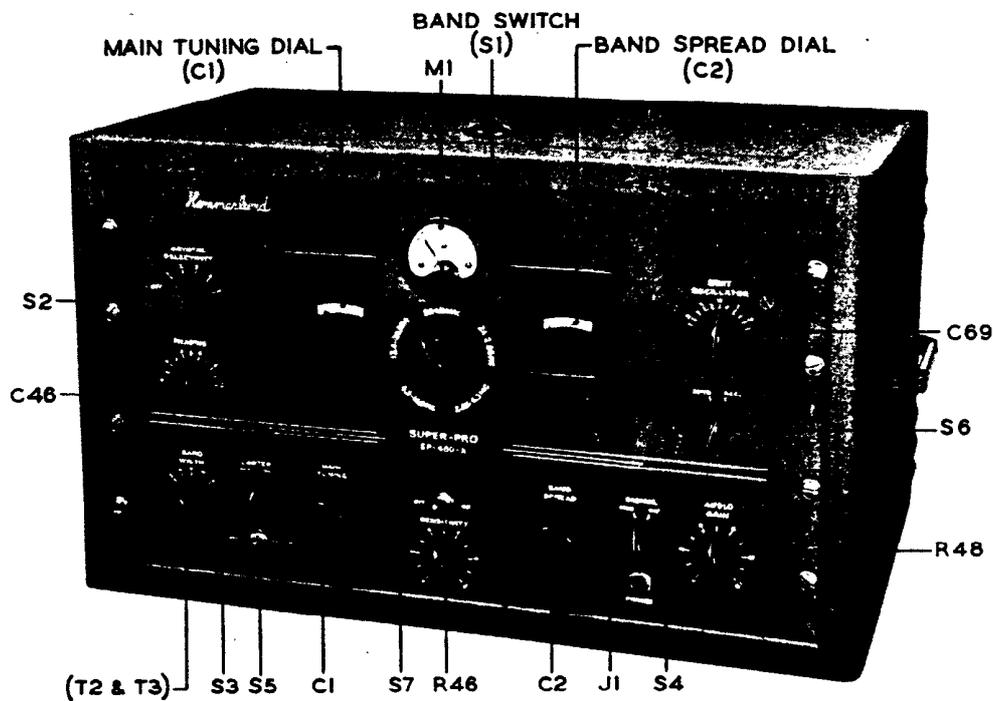
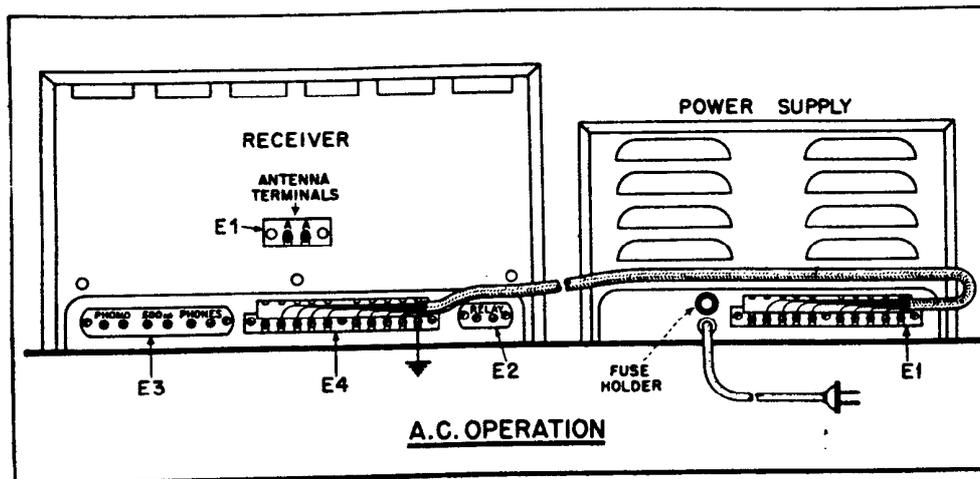
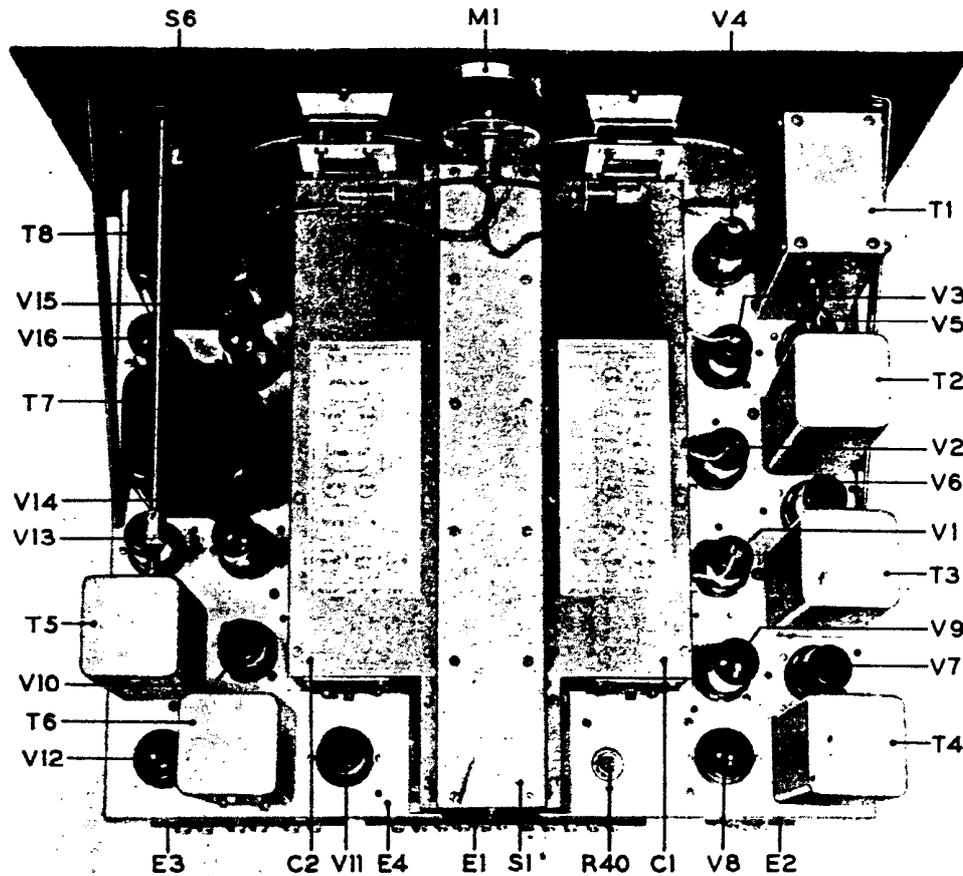

FIG. 2—Lay-out of controls referred to in text.
FIG. 3—Connectors for power cable—A.C. operation.
FIG. 7—Top chassis view showing arrangement of components.
panel (FIG. 2). Select the desired band by turning the BAND SWITCH knob right or left to the band indicated.
a. *Rating*—The total power output is approximately 8 watts. The total harmonic distortion of the output stage is less than 10% at this output and is, of course, less at lower levels. The Receiver has two output circuits with marked terminals along the rear of the chassis (FIG. 3).
(1) Remove the sheet-metal covers from terminal strip (E4, FIG. 3) on rear of Receiver and from terminal strip (E1, FIG. 3) on Power Supply. See that all ten screws on each strip are unscrewed at least three turns. Then attach one end of the connector cable to each terminal strip *exactly* as shown in FIG. 3 and tighten all screws securely. Make certain that each slotted spade lug on the cable strips makes contact with its respective screw terminal *only*, since a lug jammed between *two* screws could cause considerable trouble. Immediately
Connect a single-wire lead-in to the end of the antenna nearest the Receiver and try to have the lead-in wire leave the antenna approximately at right angles. Connect the lead-in to one of the "A" terminals (on terminal strip E1, FIG. 3) at the rear of the Receiver. Connect the other "A" terminal to a good ground, preferably not to the Receiver chassis. Run this ground lead to a water pipe or to a metal rod driven into the ground deep enough to reach moist earth. Keep the length of the ground lead as short as possible. Make the best possible electrical connections between the antenna and its lead-in and between the ground lead and "ground."
d. *Chassis Ground*: It is not usually necessary to ground the Receiver chassis, but this can be done by connecting the ground lead to the left-hand PHONO or to the left-hand PHONES terminal (located on terminal strip E3, FIG. 3). These two terminals are grounded to the inside of the chassis.
e. *Earphones*: Plug a headset into the PHONES jack (J1, FIG. 2), or connect it to screw terminals marked PHONES on rear of chassis. No matching transformer is necessary (see PAR. 20b).
f. *Loudspeaker*: The permanent magnet dynamic loudspeaker supplied with the Receiver has a transformer mounted on its housing. This transformer matches the voice coil of the loudspeaker to the 500-ohm output terminals (on terminal strip E3, FIG. 3) located at the rear of the chassis (marked 500 ohms). For loudspeaker operation,
The proper location of these tubes is shown in FIG. 7 and on the diagram attached to the top of the tuning unit. Make sure that tubes V1, V2, V3, V4 and V5 have leads connected to their grid caps.
a. *Radiophone Reception:* Set the front panel controls (FIG. 2) as follows:
(1) Throw OFF-ON power switch in center of panel to ON. This puts Receiver in operation.
(2) Adjust band switch (S1, FIG. 2) to a band which is likely to be very active. This will facilitate the process of getting familiar with the various adjustments. If interference is not serious, BAND WIDTH control can be adjusted to a wider band width (higher number), depending upon the degree of fidelity desired. In general, adjust this control to band width giving best tone with least interference.
(3) Do all tuning, with or without the meter with BAND WIDTH control set at 3. Other settings give wider bands, making exact tuning difficult. Make band width adjustments *after* signal is tuned properly.
(4) LIMITER-OFF-ON control turns noise limiter on and off. The noise limiter will be most valuable on the higher frequencies, where interference from automobile ignition system is most bothersome.
(1) On strong signals, do not turn SENSITIVITY control all the way on, because it will cause overloading. If the AUDIO GAIN control is set at about 7, it is possible to regulate volume by using only the sensitivity control.
(2) To turn on the beat oscillator, set SIGNAL-MOD-CW switch at CW. The BEAT OSCILLATOR control varies the pitch of the beat between oscillator and incoming signal. Use beat oscillator for code reception and for locating weak modulated signals.
(3) Fading signals can be improved by returning AVC-MANUAL switch to AVC.
d. *Receiver Silencing*: Receiver can be silenced by flipping the SEND-REC switch (S6, FIG. 2) to SEND. This operation opens the "B" supply to the R-F and 1st detector tubes (V1, V2 and V3). The Receiver then remains ready for instant service during transmission periods. Note also that instead of using the SEND-REC switch, a relay may be connected to the RELAY terminals (E2, FIG. 3) at rear of Receiver and silencing controlled by relay action, actuated, for example, by the associated transmitter. When using a relay for silencing, flip SEND-REC switch to SEND (open) and *leave* it there. While the
e. Phono Operation: Leads from a phonograph pickup may be connected to the PHONO terminals (on terminal strip E3, Fig. 3) at the rear of the Receiver. (Note that the left-hand terminal of this pair is grounded to chassis.) Use the SEND-REC switch (S6) as a “phono-radio” switch by flipping it to the SEND position, thus eliminating radio interference and making it unnecessary to hunt for a “dead spot” on the tuning dial.
g. *Earphone Operation:* For earphone operation, plug earphones into the PHONES jack (J1, FIG. 2) provided for them on the front panel, or connect them to the PHONES terminals on the rear of the Receiver chassis. These terminals are connected in parallel with the jack on the front panel.
h. *S-Meter Tuning:* The S-meter (M1, FIG. 2), a tuning guide, operates only when the Receiver is set for AVC. Its reading increases as the Receiver approaches resonance with the incoming signal. Exact resonance is shown by the greatest reading of the meter. BAND WIDTH control must be set at 3 for accurate tuning by means of the meter. A screwdriver adjustment (R40, FIG. 7) at the rear of the chassis varies the resistance in shunt with the meter. By means of this adjustment, an "S9" reading may be obtained on any input between approximately 10 and 10,000 microvolts. The normal factory adjustment is made on an input of 50 microvolts, and when so adjusted each "S" number represents a change in signal input of approximately 6 decibels, or a ratio of two-to-one.